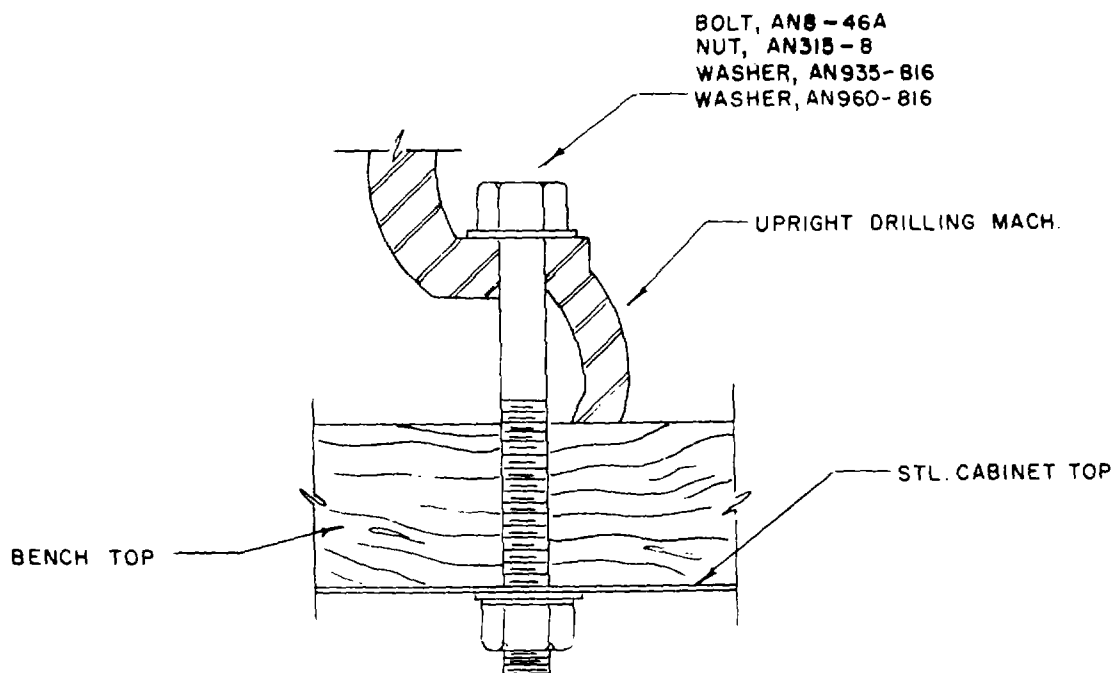

Figure 37. Typical bench top mounting, upright drilling machine.
- (2) *Upright drilling machine.* The drilling machine is bench mounted (fig. 37). Location is shown in figure 24.